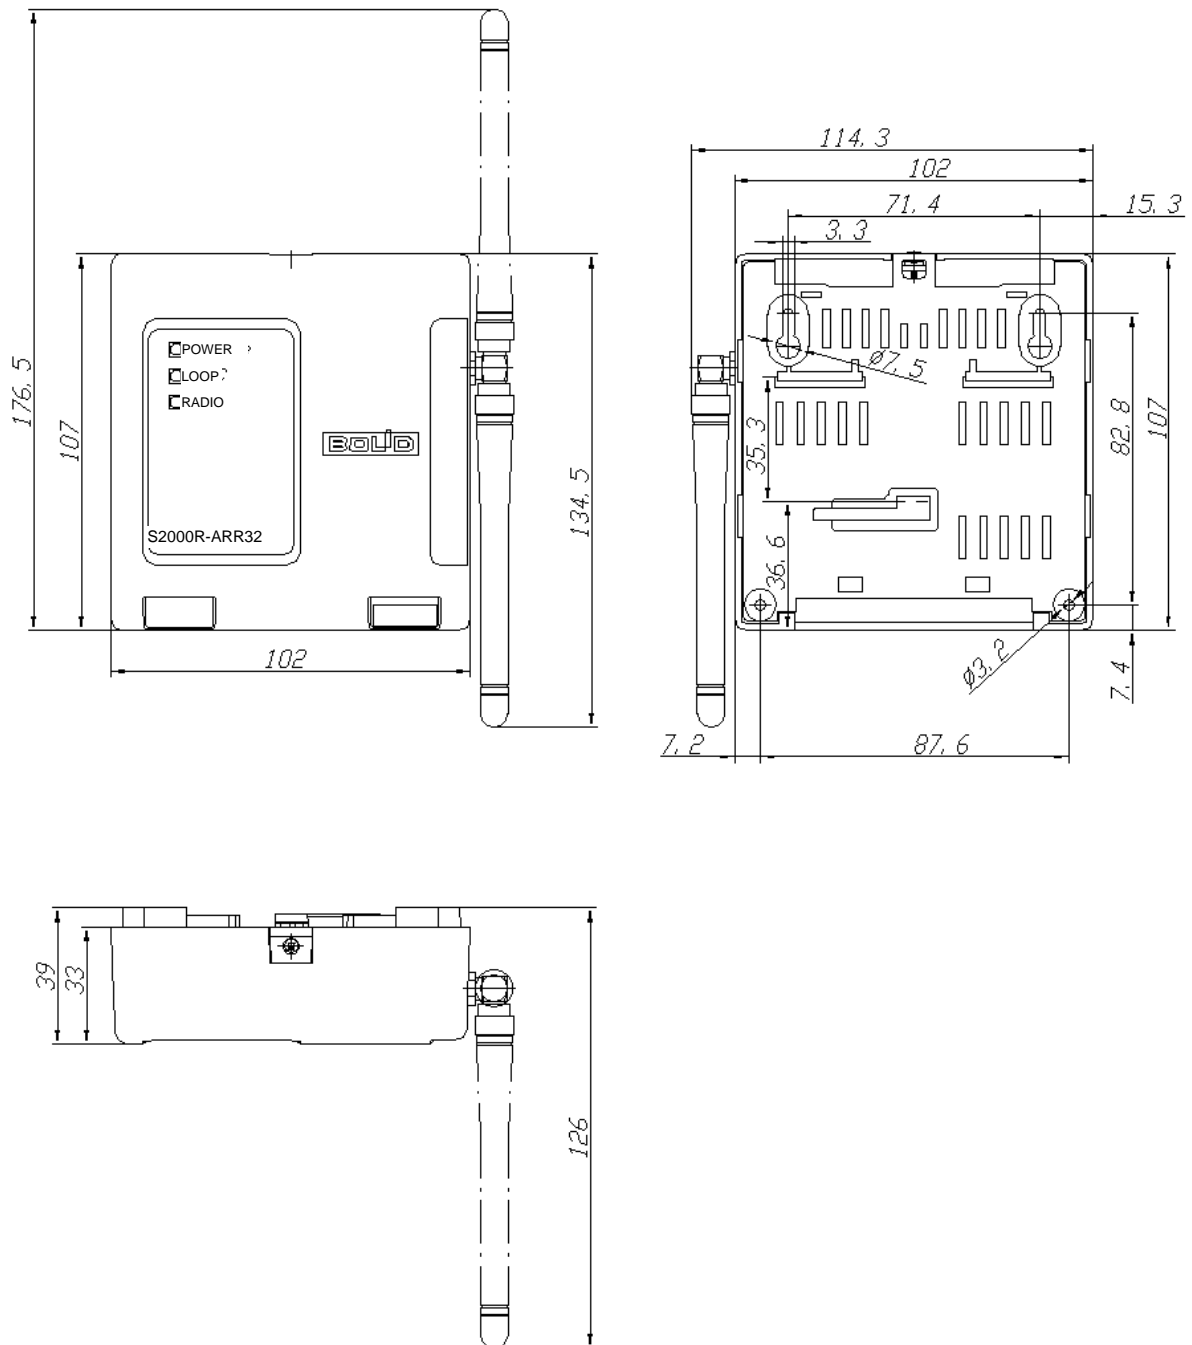

Figure 9-2. Overall and Mounting Dimensions
- Overall dimensions of the ARR32 and the distances between mounting holes are shown in Figure 9-2.